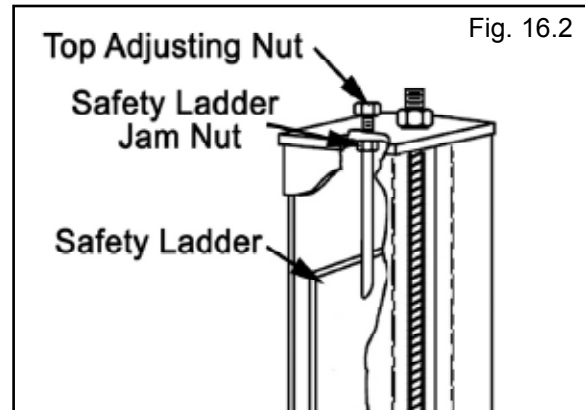

Fig. 16.2
10. To complete the leveling procedures, SNUG EACH SAFETY LADDER JAM NUT against the bottom of the Column Top Plate. (See Fig. 16.2)